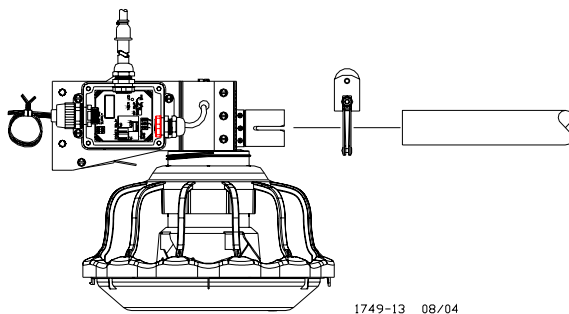

Figure 40. Connecting End Control Unit to the Feed Line Tube
1. Assemble the End Control Unit to the Feeder Line Control Tube using a clamp/anti-roost bracket. See **Figure 40. DO NOT INSTALL THE POWER UNIT AT THIS TIME.**